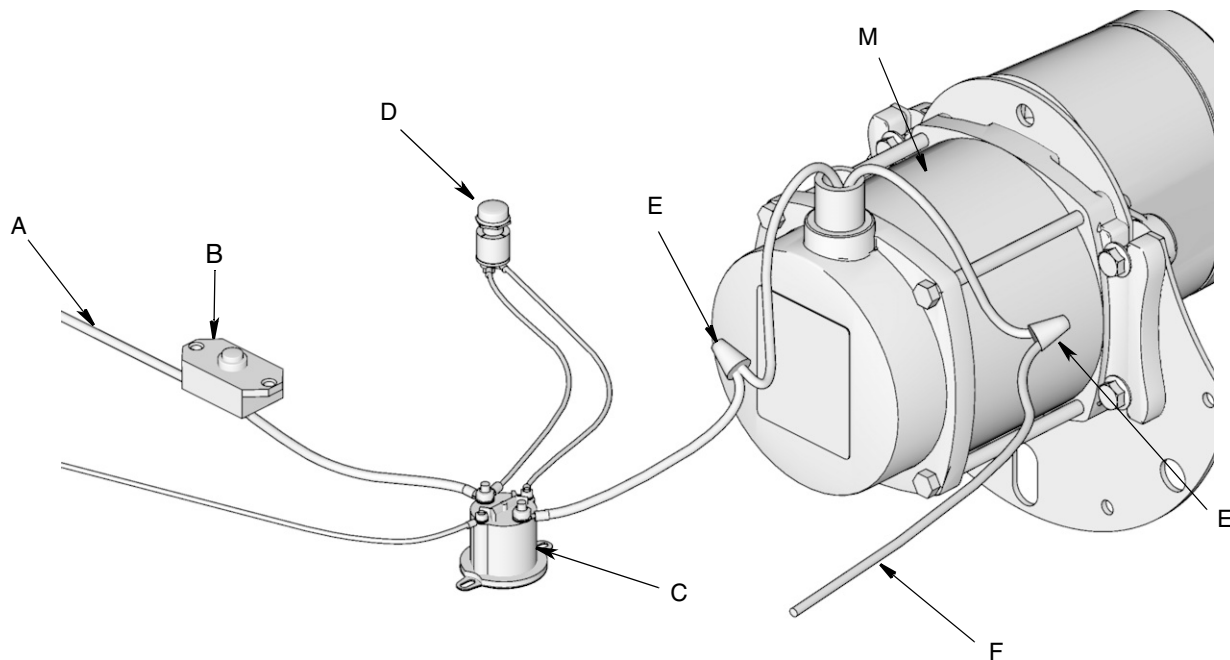

FIG. 61
- Follow wiring diagram provided in FIG. 61 and Wiring Schematic provided in FIG. 62.